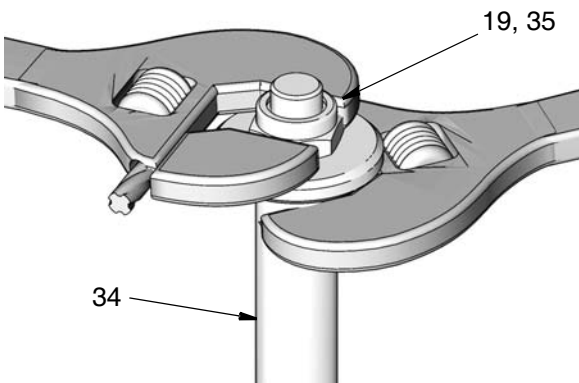
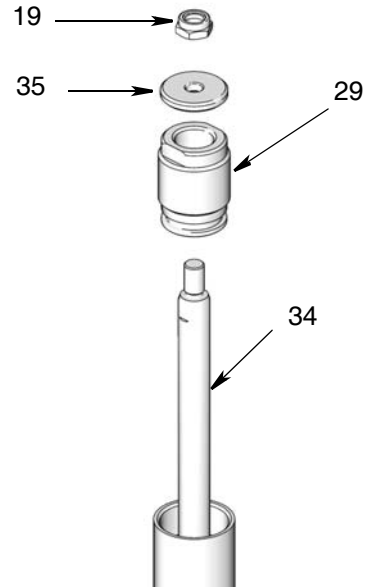

Fig. 3
Fig. 4
- Use an adjustable wrench to hold the priming rod (34) securely. Use a second adjustable wrench to loosen and remove the nut (19) and priming piston (35) (Fig. 3, Fig. 4).
- Use a wrench to loosen and remove the seal retainer (29) (Fig. 4).